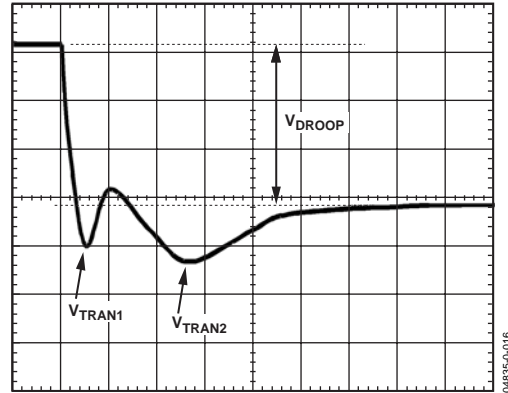
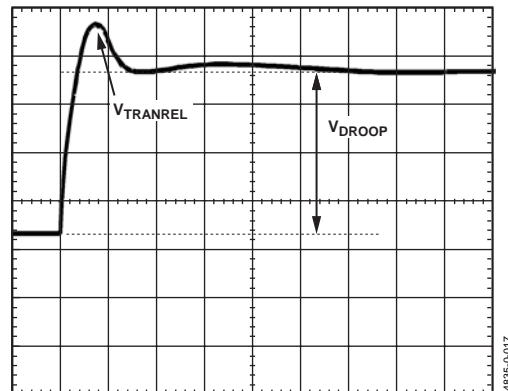

Figure 16. Transient Setting Waveform
Figure 17. Transient Setting Waveform
19. With the dynamic load still set at the maximum step size, expand the scope time scale to see 2  $\mu\text{s}/\text{div}$  to 5  $\mu\text{s}/\text{div}$ . The waveform may have two overshoots and one minor undershoot (see Figure 16). Here,  $V_{DROOP}$  is the final desired value.
21. For load release (see Figure 17), if  $V_{TRANREL}$  is larger than  $V_{TRAN1}$  (see Figure 16), there is not enough output capacitance. Either more capacitance is needed, or the inductor values need to be smaller. (If inductors are changed, start the design again using the spreadsheet and this tuning procedure.)